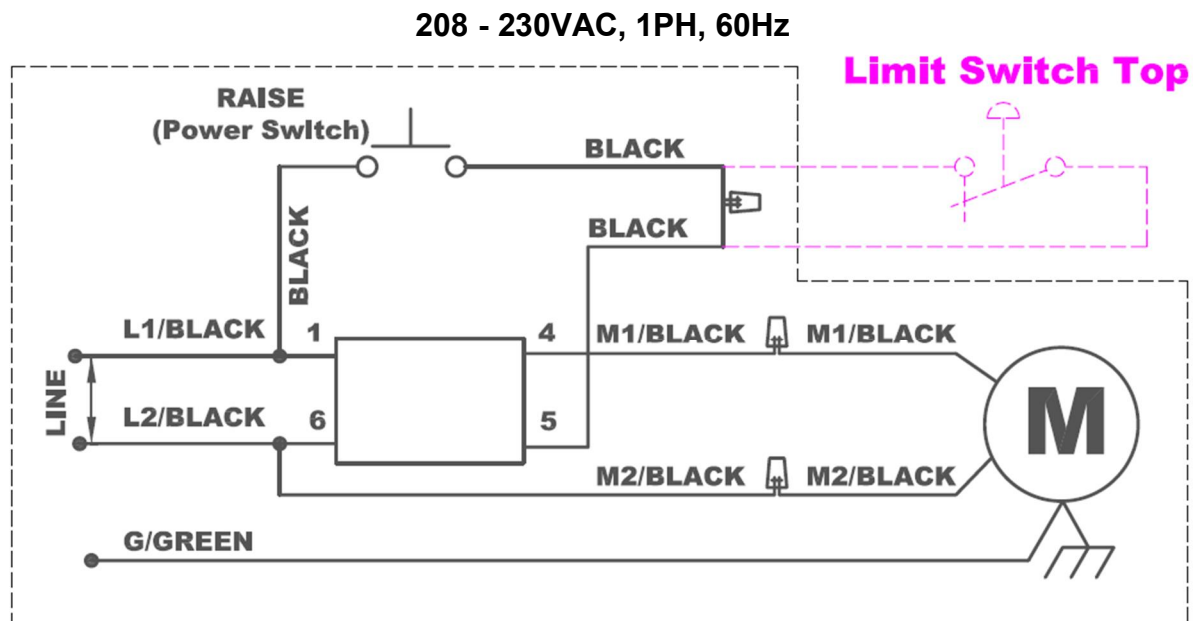

Fig. 14
- Have a certified electrician make the electrical connection from power supply to the power unit. Use separate circuit for each power unit, as shown below in (Fig. 14).
- Have a certified electrician make the electrical connection for the overhead limit switch to power unit's switch box, as shown in (Fig. 14).